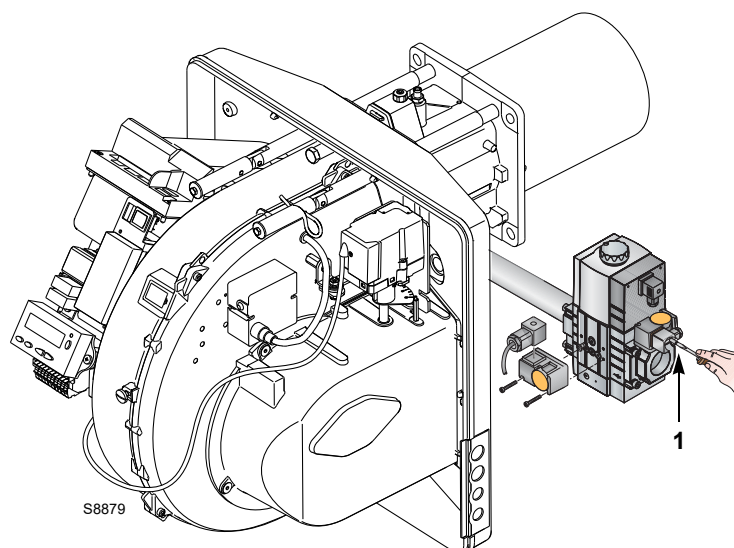

Fig. 28
- Check the gas supply pressure by connecting a pressure gauge to the pressure test point 1)(Fig. 28) of the minimum gas pressure switch: it must be lower than the maximum allowed pressure of the gas train, as shown on the characteristics label.
- Bleed the air from the piping of the gas train, connecting a plastic tube to the pressure test point 1)(Fig. 28) of the minimum gas pressure switch. Take the vent tube outside the building so you can notice the smell of gas.